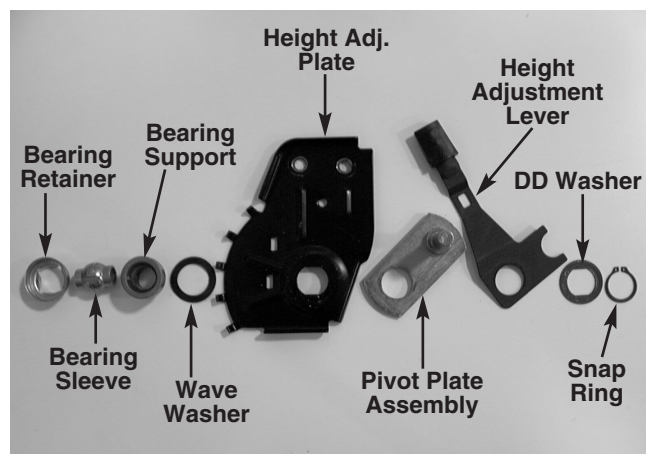

FIGURE 2.
2. Remove the bearing retainer, bearing sleeve, bearing support, and wave washer from the height adjustment plate. See figure 2.